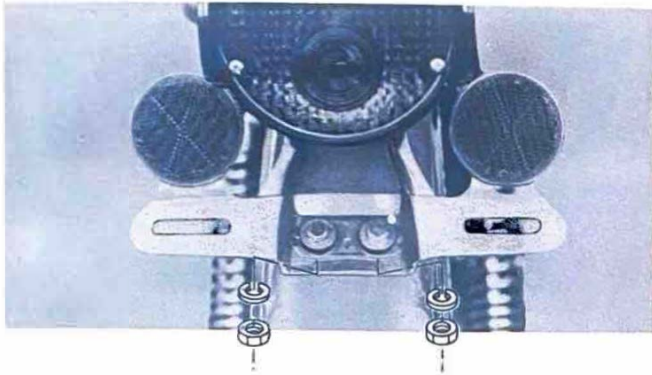

Fig. 40
- (3) Using the shouldered bolts, plain washers, spring washers and nuts secure the rear part of the tail/stoplight bracket to the fender. (Fig. 40)